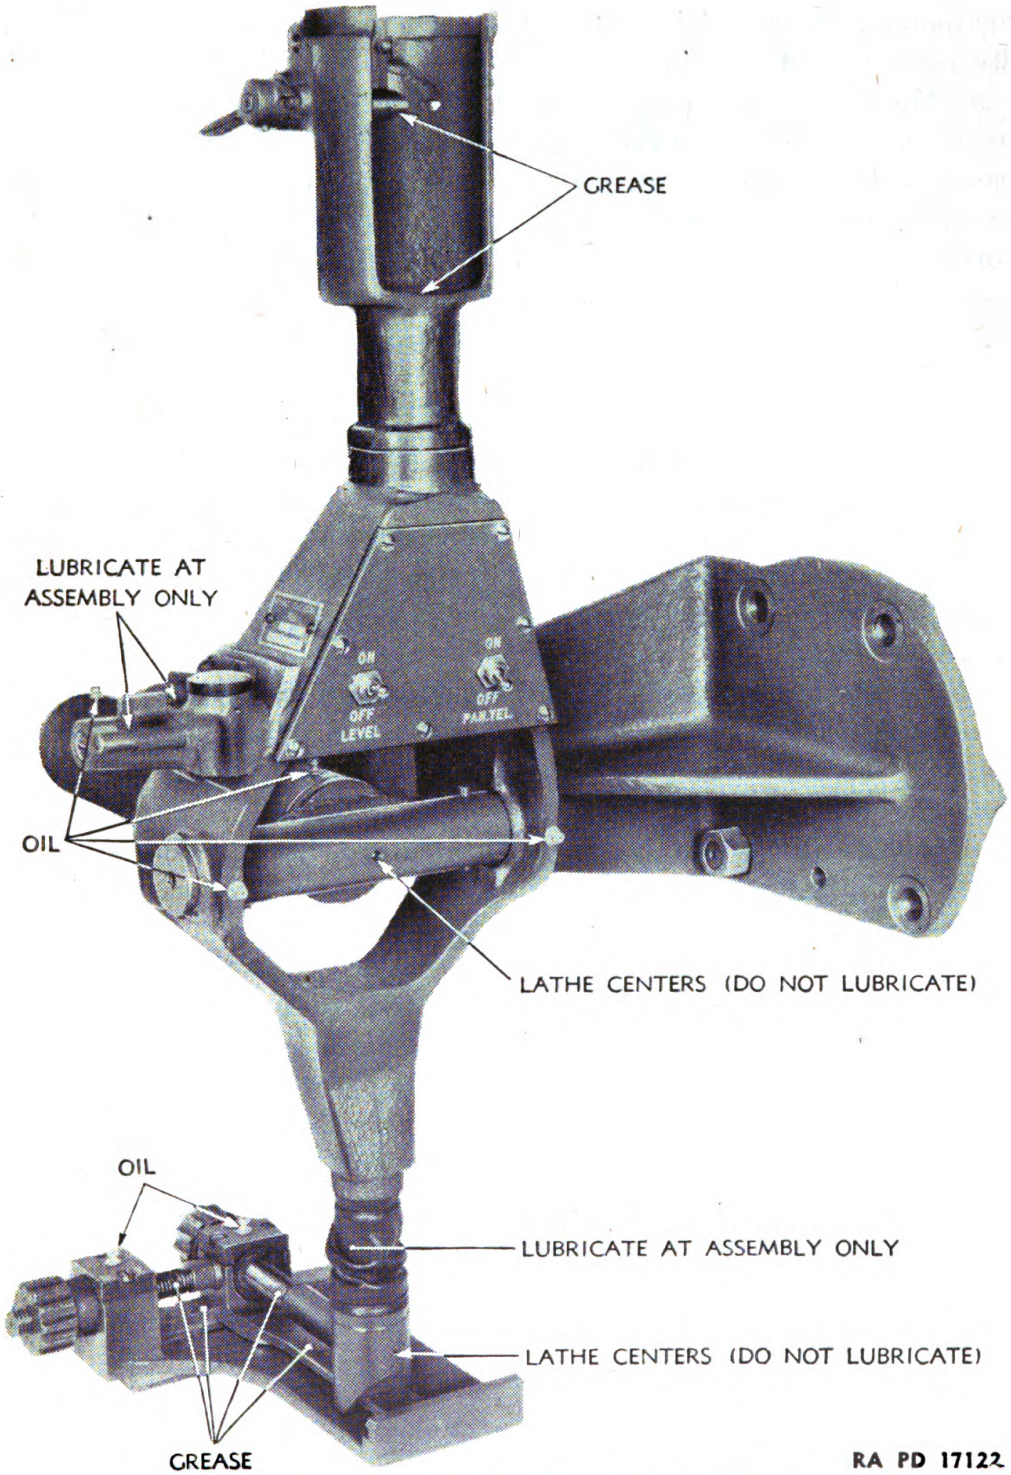

FIGURE 14.—Lubrication of telescope mount.
13. Lubrication.—*a.* Lubrication points are indicated in figure 14.